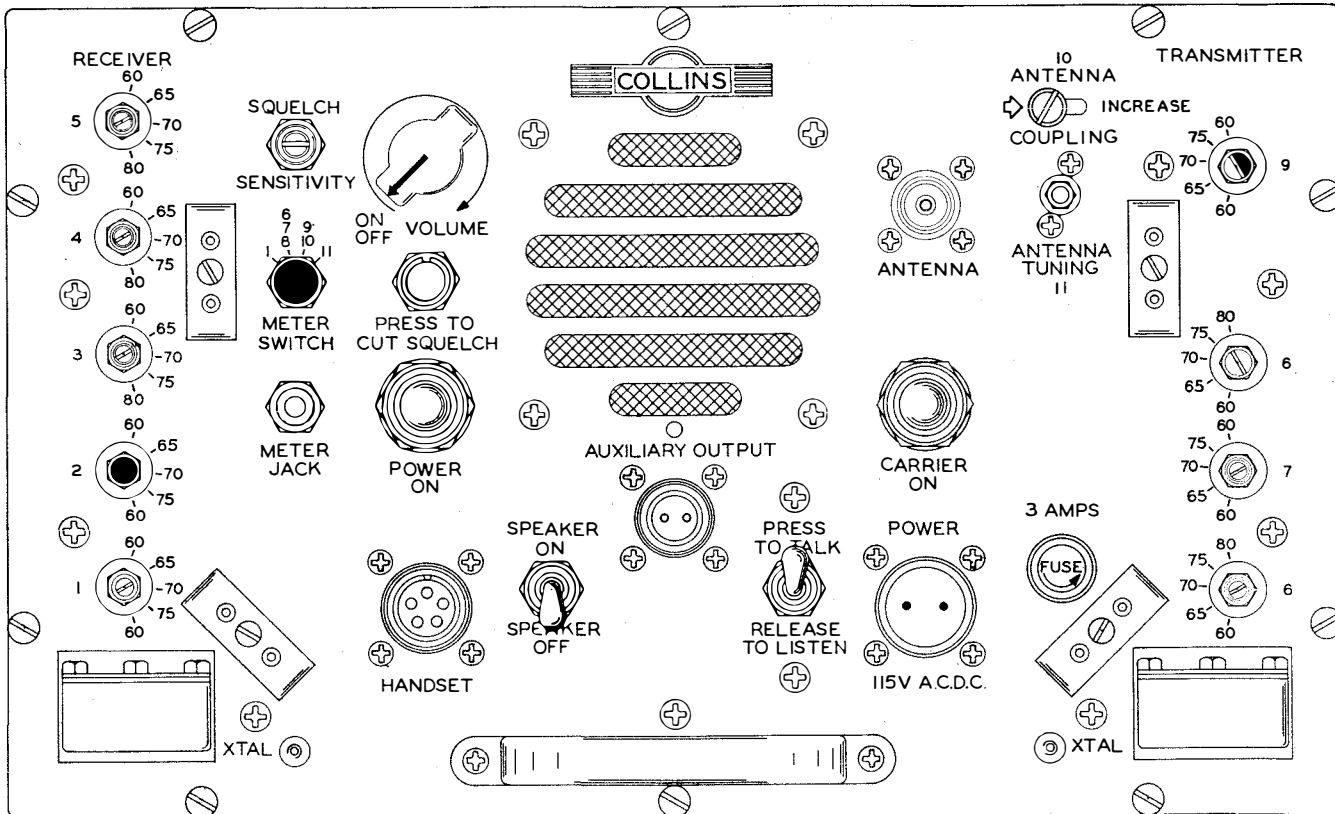

Figure 2-5—Panel Controls
a. **GENERAL.** (See figure 2-5 and figure 4-1 on page 4-1.)—The adjustment controls on this equipment are located on the panel and are of two types, variable and semi-fixed. All of the tuning controls are of the semi-fixed type, adjustment being made with a screwdriver after the locking nuts have been loosened with the spintite wrench. Adjustment of the transmitter-receiver includes selecting the proper crystals for the frequencies used. Preliminary adjustments of the transmitter section consists of setting the tuning controls for the desired operating frequency and the coupling control for proper loading of the RF power amplifier tube. The initial adjustments will be the setting of the tuning controls of the transmitter section. The receiver SQUELCH SENSITIVITY and VOLUME controls may require resetting at various times, depending upon the strength of the received signal.